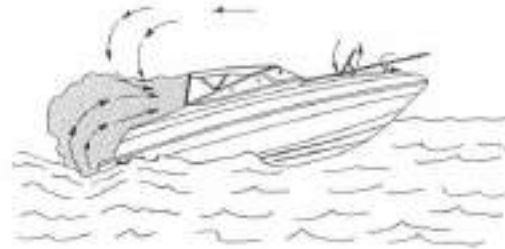

Figure H4: Backdrafting - Air flows over boat and behind transom.
Backdrafting or the "station wagon effect" is caused by air movement over or around a boat creating a low pressure area of suction area around the stern which can increase CO level on the boat. Backdrafting can be affected by relative wind direction, boat speed, and boat trim angle. See Figure H4 Backdrafting - Airflows Over Boat and Behind Transom".
3. Canvas Configurations - Under various conditions, adding or removing canvas may raise or lower CO levels. See Figures H4, H5 & H7.